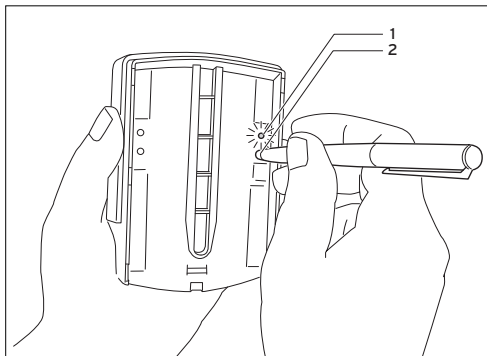

Fig. 3.6 Bringing the wireless outdoor sensor into operation
⇒ Activate the wireless outdoor sensor by pushing the button (2, Fig. 3.6) on the back on the right, e.g. with
a pen. The green LED (1, Fig. 3.6) flashes for 2 to 30 seconds.
- ⇒ Pull the wireless controller off the wall socket. Insert a screwdriver into the two locking tab mechanisms to do this (see Fig. 3.6 arrows).